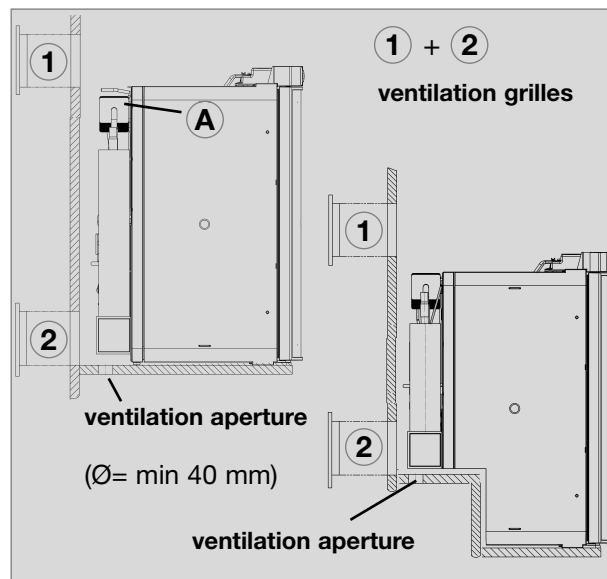
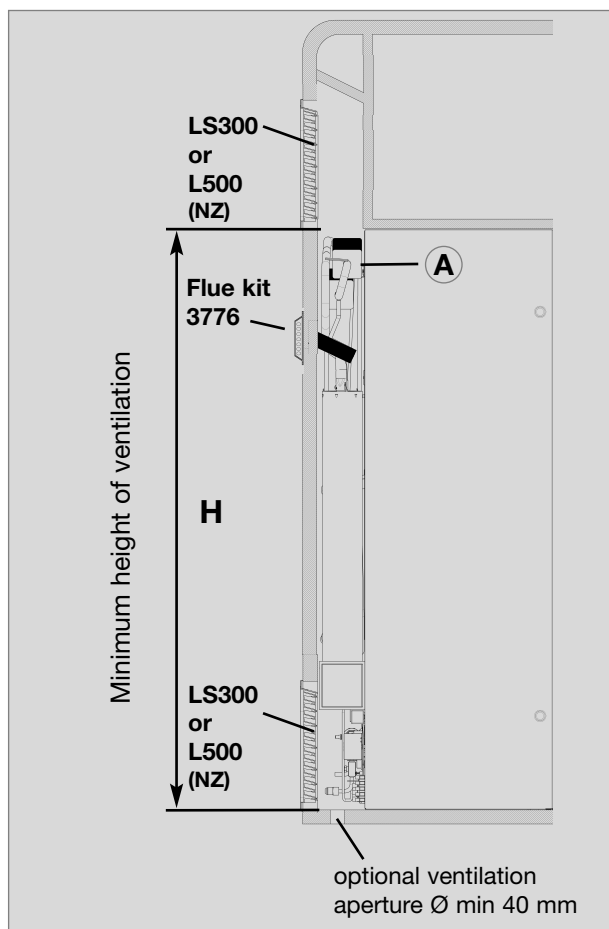

Fig. 12
Fig. 17
**The upper ventilation grille should be positioned as high as possible above the condenser (A, fig.12, fig. 17).**
**The gas burner must be located above the edge (1, Fig. 12).**
To install the ventilation grilles cut two rectangles to suit vents in the outer wall of the vehicle (for position of the cuts, see figures 12, 17).